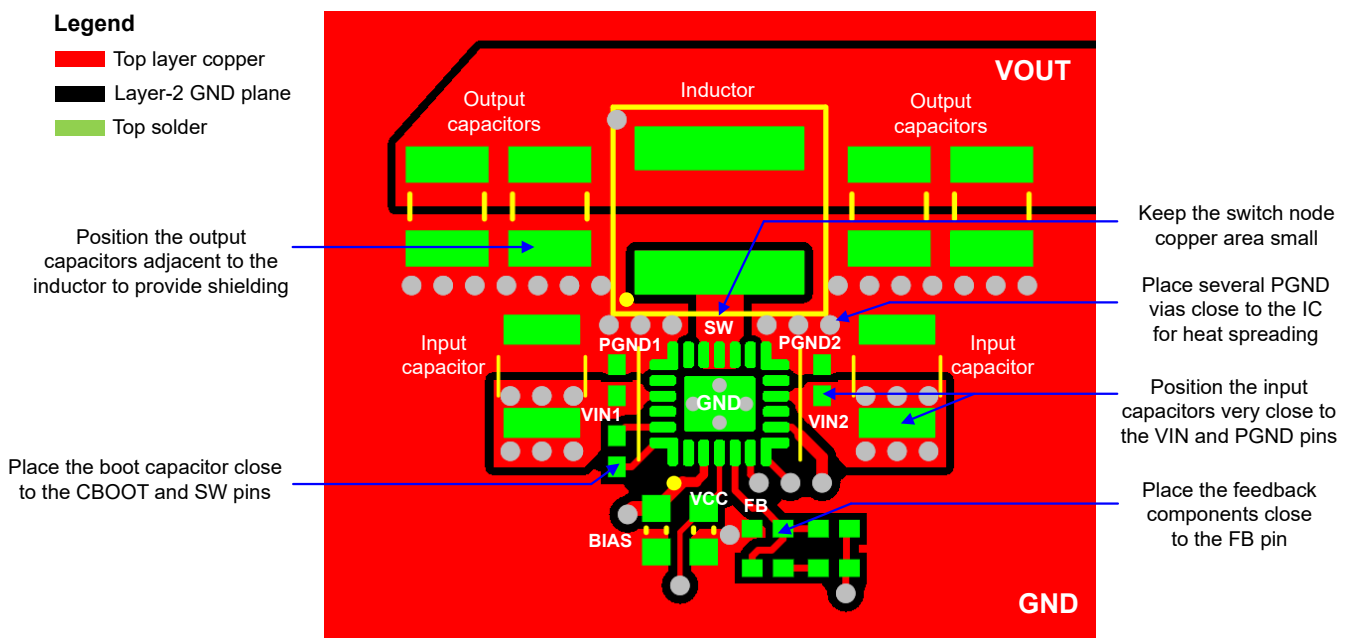

图 8-31. PCB Layout Example
The following list summarizes the essential guidelines for PCB layout and component placement to optimize DC/DC converter performance, including thermals and EMI signature. 图 8-31 shows a recommended layout of either the LM63440-Q1 or LM63460-Q1 with optimized placement and routing of the power-stage and small-signal components.
- Use low-ESR ceramic capacitors with X7R or X7S dielectric from VIN1 to PGND1 and VIN2 to PGND2. Place an 0402 capacitor close to each pin pair for high-frequency bypass as shown in 图 8-31. Use an adjacent 1206 or 1210 capacitor on each side for bulk capacitance.